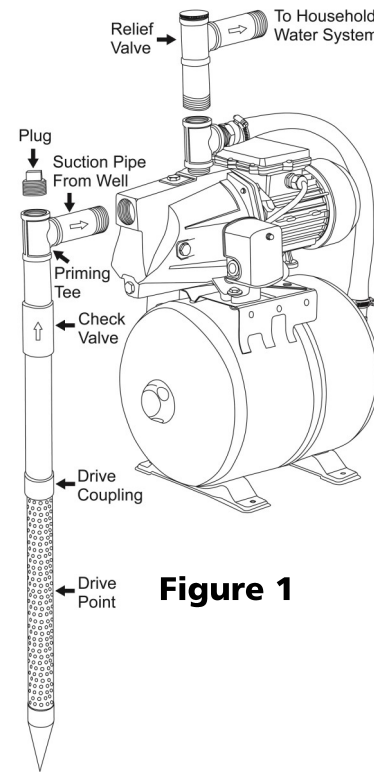

Figure 1
3. Install a priming tee with a plug on the suction pipe from the water source as shown in Figure 1. An inline check valve should also be installed on the suction line going to the pump. Install a union or other fitting that will allow the pump to be easily disassembled from the piping for easy servicing. Make sure Teflon tape or pipe joint compound is used on all joints.
- 4. Install a priming tee with a plug on the suction pipe from the water source (Figure 1). An inline check valve should also be installed on the suction line going to the pump. Install a union or other fitting that will allow the pump to be easily disassembled from the piping for easy servicing. Make sure Teflon tape or pipe joint compound is used on all joints.
4. Install a priming tee with a plug on the suction pipe from the water source (Figure 1). An inline check valve should also be installed on the suction line going to the pump. Install a union or other fitting that will allow the pump to be easily disassembled from the piping for easy servicing. Make sure Teflon tape or pipe joint compound is used on all joints.